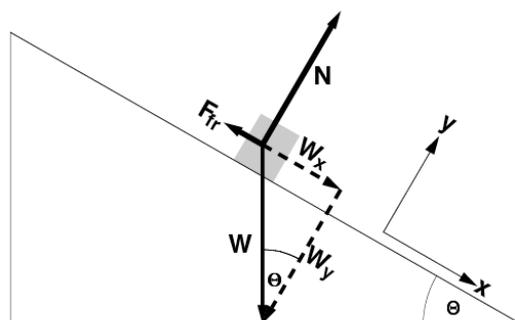

Fig. 3.1 Free-body diagram of an object sliding down an inclined plane
In this experiment, you will measure the velocity of a cart at various points as it glides down a slightly inclined and nearly frictionless track. In addition you will learn several techniques for finding acceleration. When an object slides down an incline, there are three forces acting upon it: the normal force, (N) of the incline pushing up on the object, the weight of the object (W), and any frictional forces (F_{fr}). Figure 3.1 illustrates these forces. The dashed lines indicate the components of the object's weight along and perpendicular to the incline.
Any net force in the x -direction will cause the object to slide along the incline. Summing the x -components of the forces shown in Figure 3.1, we find that: